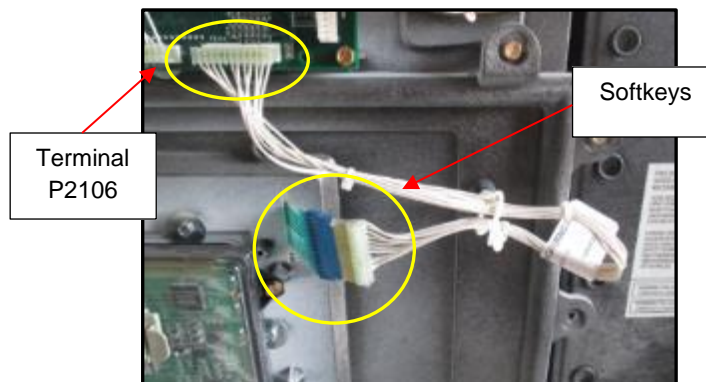

Fig 1.8 – Location of Softkey cable assembly
10. Unplug the Softkey cable assembly from both the Softkeys and the Door Node at terminal position P2106 (If present). (Fig 1.8)